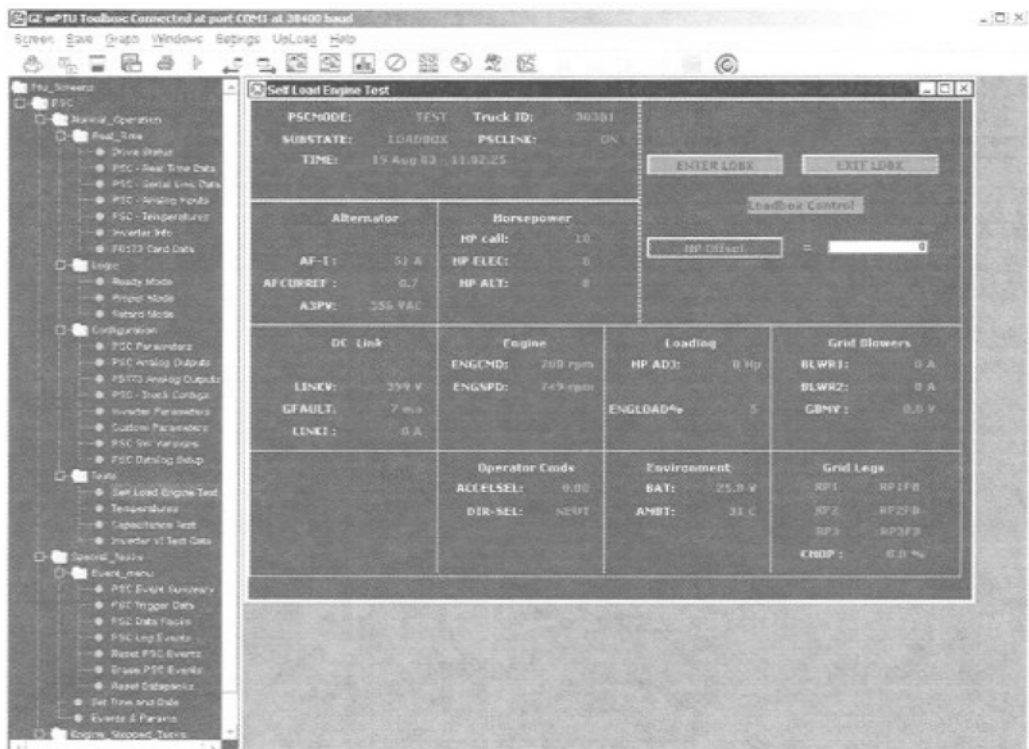

FIGURE 3-16. INITIAL SELF LOAD ENGINE TEST SCREEN
- Verify that the values are similar to the initial Self Load Engine Test screen in Figure 3-16.